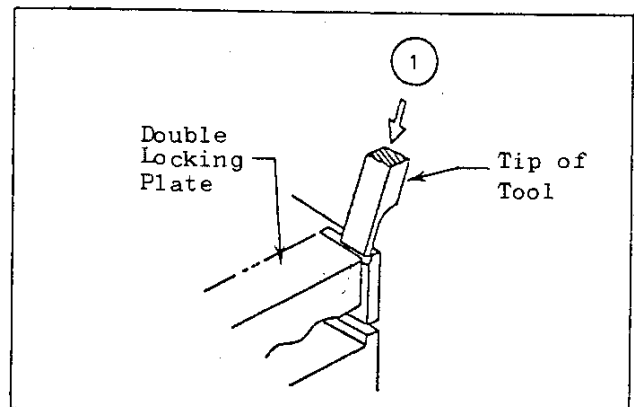

Fig. 2
1. Insert tip end of the tool into the gap between the double-lock hinge and side wall of housing as shown in Fig.2.